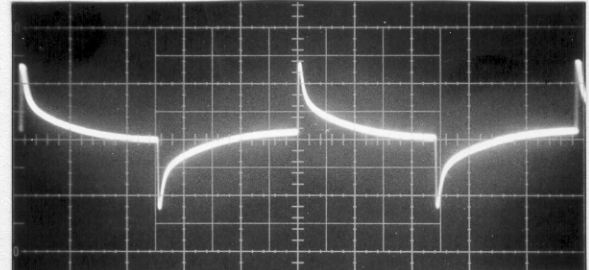

Fig. 10. Lo-Cut in.
- 6) Engage low-cut switch, compare to Fig.10. Disengage.